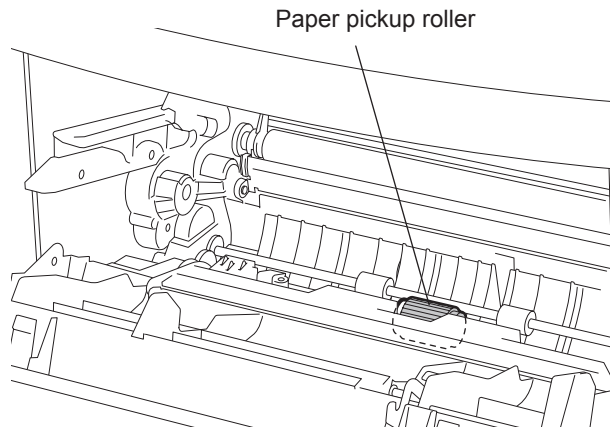

Fig. 10-12
- 8) Paper pickup roller (P.10-9 "Fig. 10-12")